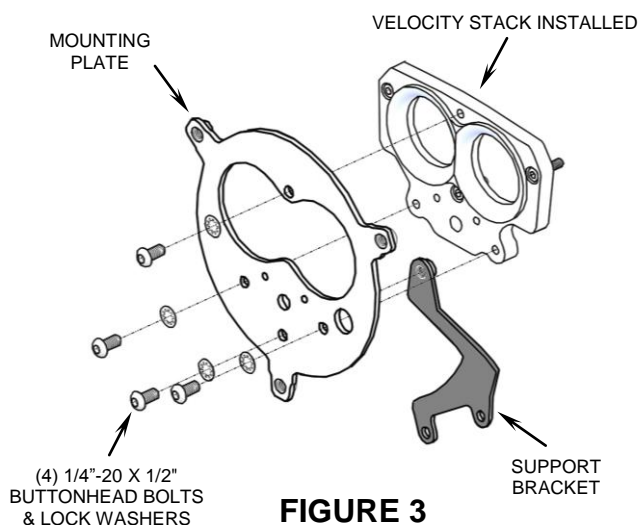
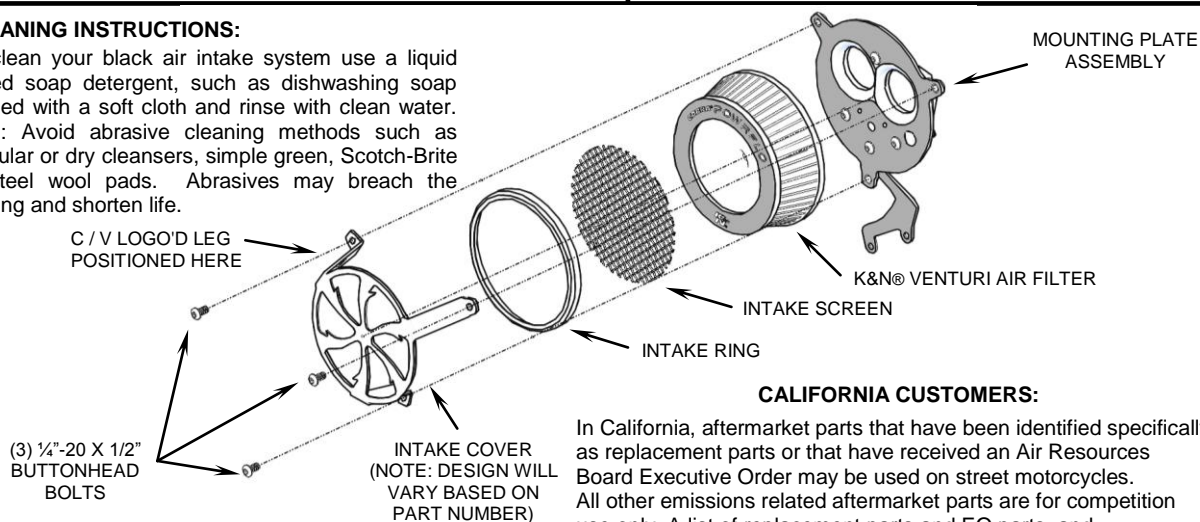

FIGURE 3
FIGURE 5
4. Bolt the velocity stack to the throttle body using the (3) supplied M5 x 16mm allen bolts and tighten.
5. Position the mounting plate over the velocity stack (with the welded tube toward the inside) and secure using (3) supplied 1/4"-20 x 1/2" buttonhead bolts and lock washers, finger tighten only. See Figure 3.
6. Remove the two allen bolts at the base of the cylinders and install the supplied support bracket. Secure the support bracket to the mounting plate using (1) 1/4" buttonhead bolt. See Figure 3 & 4.
7. Fully tighten the (4) 1/4"-20 buttonhead bolts (Steps 5 & 6) and the stock allen bolts (Step 6).
9. Insert the round intake screen into the chrome ring so the screen sits inside the edge of the ring. Place the ring and screen between the legs of the naked chrome intake cover as shown in Figure 5.
10. Place the naked intake cover, ring and screen assembled in Step 9, over the air filter and align each leg to the base mounting plate threaded holes. Be sure screen sits at a 45 ° angle to the bottom leg, and C/V logo'd leg is at the upper left position. Insert the (3) supplied 1/4"-20 x 1/2" buttonhead bolts through the intake cover and into the base mounting plate, see Figure 5. Double check all parts are aligned properly and tightened securely.